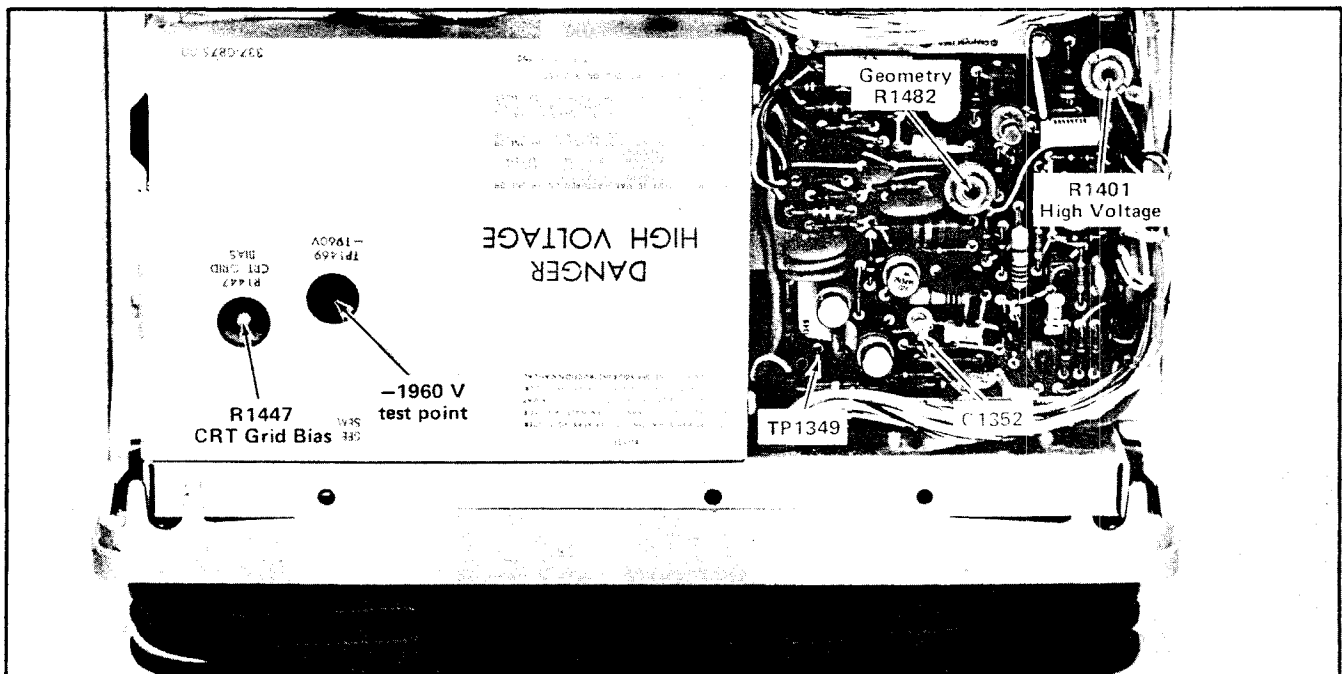

Fig. 5-5. Location of high-voltage and Z-AXIS adjustments and test-points.
a. Connect the precision DC voltmeter (use the precision 2 kV divider) between the -1960 V test point (see Fig. 5-5) and chassis ground.
c. ADJUST—High-Voltage adjustment R1401 (see Fig. 5-5) for a meter reading of -1960 volts ( $\pm 19.6$  volts).
- a. Connect the precision DC voltmeter between TP1349 (Z Axis Amplifier board; see Fig. 5-5) and chassis ground.
- d. ADJUST—CRT Grid Bias adjustment, R1447 (see Fig. 5-5), so the spot on the CRT just disappears (it may be necessary to turn the horizontal POSITION control clockwise to bring the spot onto the viewing area).
- c. ADJUST—Geometry adjustment, R1482 (see Fig. 5-5 for minimum bowing of the trace at the left and right edges of the graticule.
- b. Connect the 10X probe tip to TP1349 (see Fig. 5-5).
- f. ADJUST—C1352 (see Fig. 5-5) for optimum square corner on the unblanking gate.